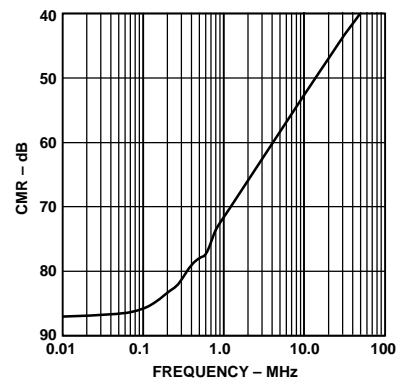

Figure 16. CMR vs. Input Frequency (Input Span = 2 V, $V_{CM} = 2.5$ V)
Differential operation requires that VINA and VINB be simultaneously driven with two equal signals that are in and out of phase versions of the input signal. Differential operation of the AD9241 offers the following benefits: (1) Signal swings are smaller and therefore linearity requirements placed on the input signal source may be easier to achieve, (2) Signal swings are smaller and therefore may allow the use of op amps that may otherwise have been constrained by headroom limitations, (3) Differential operation minimizes even-order harmonic products and (4) Differential operation offers noise immunity based on the device's common-mode rejection as shown in Figure 16.